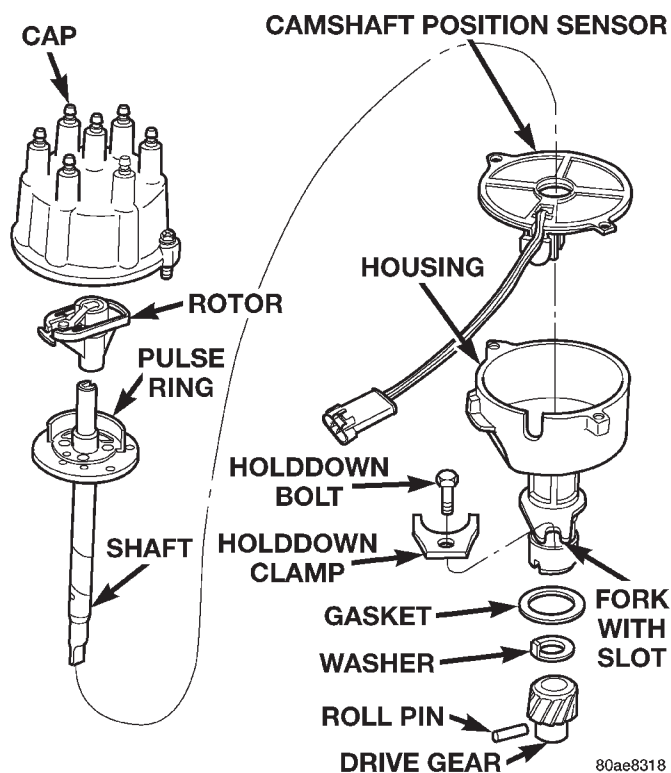

Fig. 37 Distributor—4.0L Engine—Typical
The camshaft position sensor is located in the distributor on all 4.0L engines (Fig. 37). For removal/installation procedures, refer to Camshaft Position Sensor. Distributor removal is not necessary for sensor removal.
Refer to (Fig. 37) for an exploded view of distributor.
A fork with a slot is supplied on bottom of distributor housing where the housing base seats against engine block (Fig. 37). The centerline of the slot aligns with distributor holddown bolt hole in engine block. Because of the fork, the distributor cannot be rotated. Distributor rotation is not necessary as all ignition timing requirements are handled by the powertrain control module (PCM).
(8) Clean distributor mounting hole area of engine block.
(9) Install new distributor-to-engine block gasket (Fig. 37).
(10) Install rotor to distributor shaft.